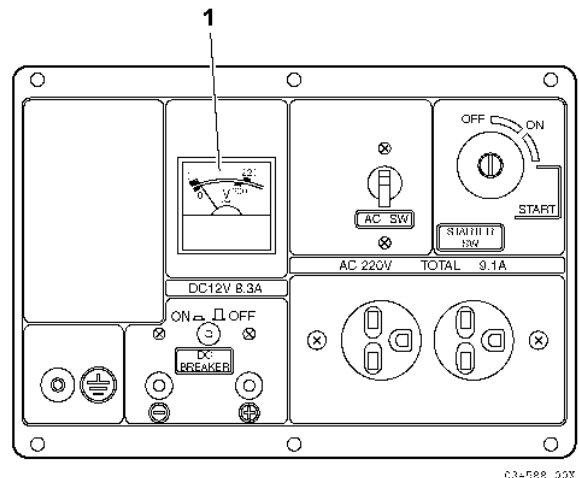
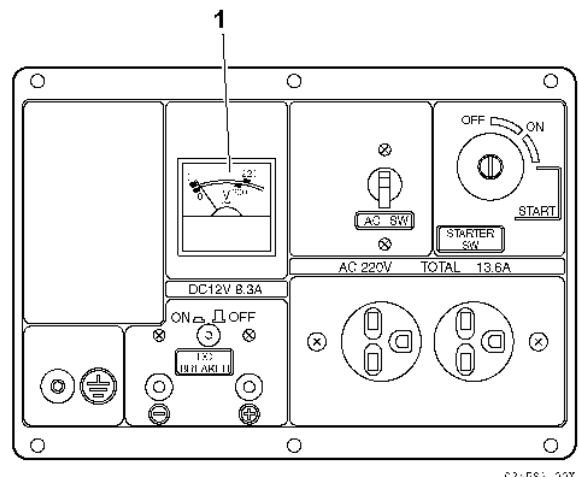
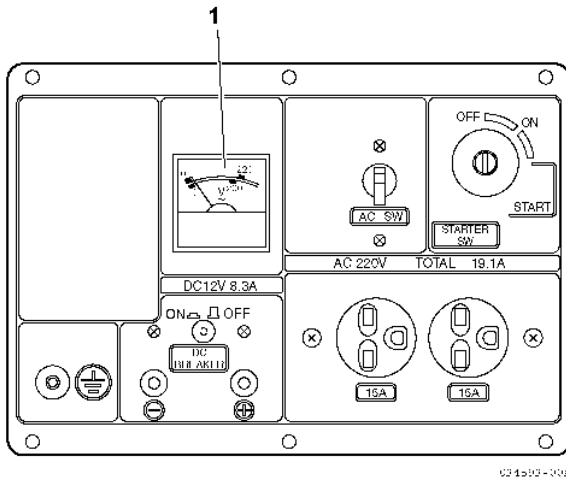
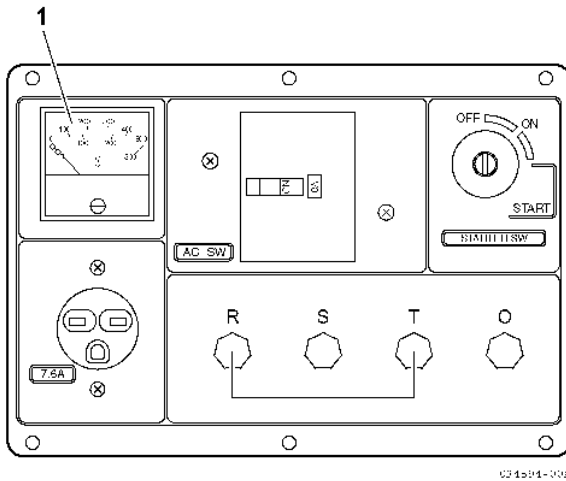

Figure 61
Figure 62
Figure 63
Figure 64
1. Start the engine. See *Starting the Generator* on page 64. Once the engine is started, make sure the voltage meter (**Figure 61, (1)**) or (**Figure 62, (1)**) or (**Figure 63, (1)**) or (**Figure 64, (1)**) indicates the voltage. If it does not, STOP the generator as the generator or voltage meter may be damaged.